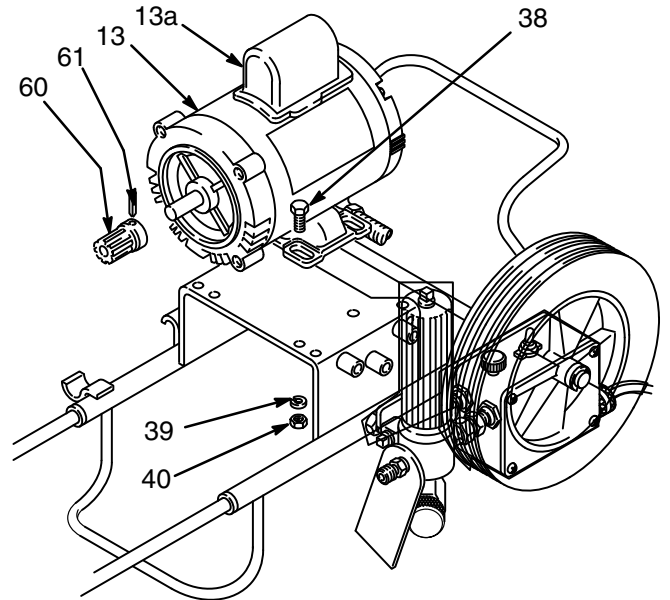

Fig 21
1. Remove the sprayer's shroud and the lift handle (2). Remove the drive assembly (8). See page 22. The pump, connecting rod and bearing can stay assembled to the drive assembly.
2. Drive out the pin (61). Remove the gear (60). See Fig 21.
8. Clean the gear (60) and inspect it for wear or damage. Replace if necessary. Secure the gear with the pin (61). See Fig 21. Apply molybdenum disulfide spray lubricant to the gear, allow to dry, and then apply industrial grade, heavy duty, extreme pressure, lithium soap grease.